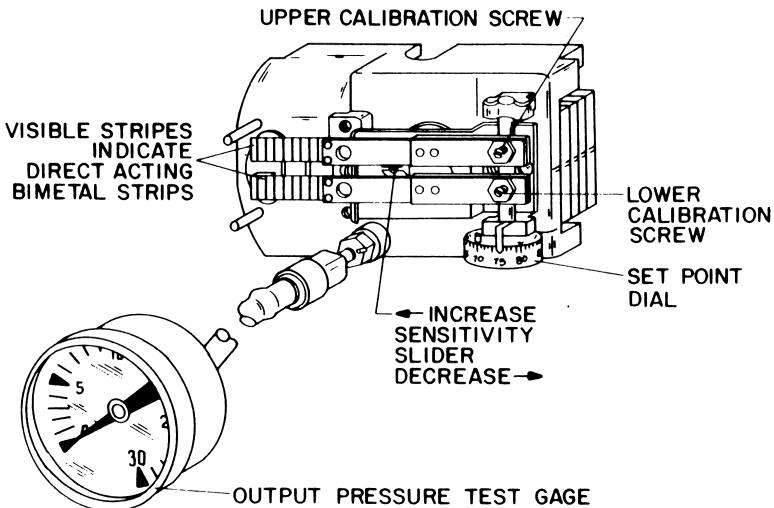

Fig. 2: T-4752 Adjustments
**Set Point Adjustment When Heating Set Point and Cooling Set Point are Identical (See Fig. 2)**
**Set Point Adjustment When Cooling Set Point is Different Than Heating Set Point Shown on the Dial (See Fig. 2)**
The T-4752 is factory set at  $2.5 \pm 0.5$  PSI/F° ( $31 \pm 6$  kPa/C°). Some situations may require a sensitivity adjustment for proper instrument operation. To do so, move the sensitivity slider to the left to increase or to the right to decrease the sensitivity setting. If the output pressure changes do to moving the slider, restore the output pressure to its original value by turning the adjustment screw on the slider clockwise to decrease or counterclockwise to increase the pressure (see Fig. 2). **Note: This screw is not intended for set point calibration.**